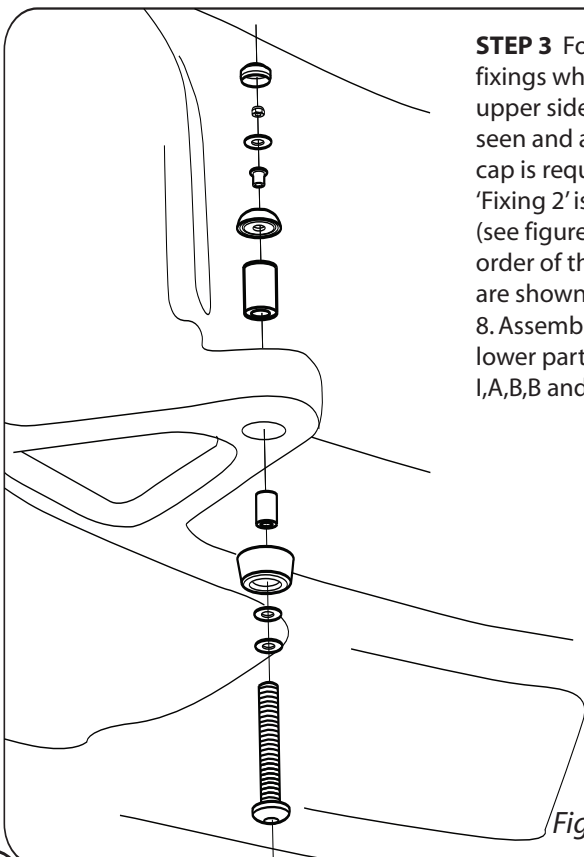

Figure 8
STEP 3 For the fixings where the upper side can be seen and a cover cap is required 'Fixing 2' is used (see figure 4). The order of these parts are shown in figure 8. Assemble the lower parts (Parts I, A, B, B and J) first.